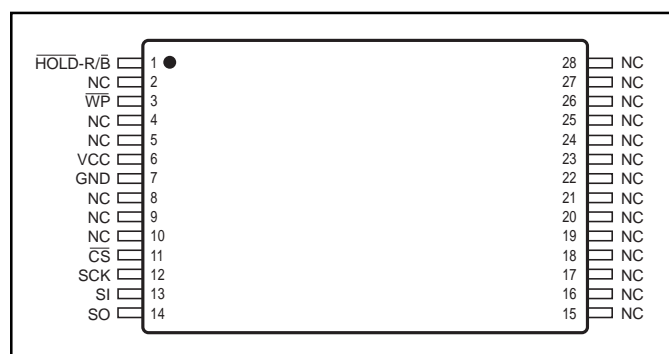

Figure 3. IS25F011A, IS25F021A, and IS25F041A
The IS25F011A, IS25F021A, and IS25F041A are available in a 28-pin TSOP (Type I) surface mount package. See Figure 3 and Table 1 for pin assignments. All interface and supply pins are on one side of the package. The "No Connect" (NC) pins are not connected to the device, allowing the pads and the area around them to be used for routing PCB system traces. The devices are also available in a cost-effective and space-efficient removable Serial Flash Module package.